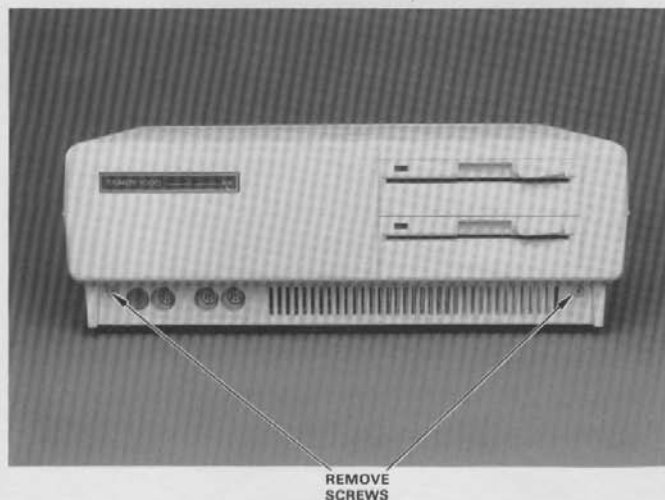

Figure 4. Cover Mounting Screws
2. Remove the screws shown in Figure 4 and set them aside. Slide the computer's cover forward to remove it.